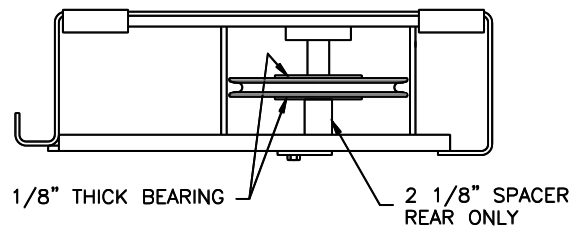

Fig 5 – Rear Single-Stack (idler runway)
- 6) Remove the four (4) cross beam sheaves (one sheave from each end) and the two idler runway sheaves (also one sheave from each end). The runway sheave pins do not need to be removed, just lowered enough to remove the sheaves.
- per figures 5 & 6. **Note:** use one 2 1/8" long spacer at the idler rear sheave only.